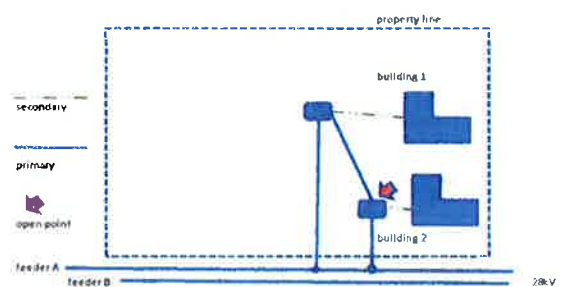

FIGURE 3: 2 BUILDING CONNECTION greater than 1,000kVA
2. Where a property has more than 1 building, and has a total load that exceeds 1,000kVA, then one transformer per building is required. The primary system must be looped and have 2 connections to the same supply feeder. An open point must be established. See Figures 3 and 4.